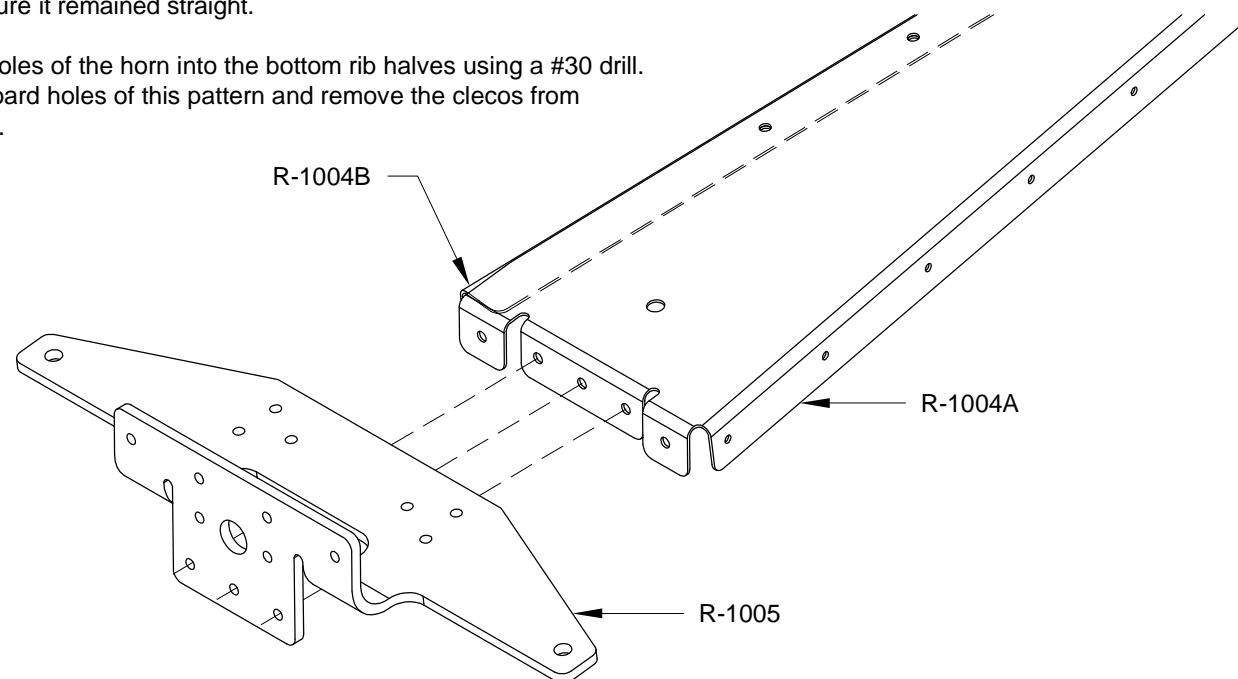

FIGURE 3: ATTACHMENT OF HORN TO BOTTOM RIB
Step 3: Cleco the R-1005 Rudder Horn to the R-1004A Bottom Rib Half using the three holes shown in Figure 3. The R-1004B Bottom Rib Half is unsupported forward of the last cleco which attaches it to the R-1004A. Use a "C" clamp to hold it in position with the R-1004A and the horn (make sure not to cover any of the holes on top of the horn). Lay a straight edge along the flange of the R-1004B to make sure it remained straight.